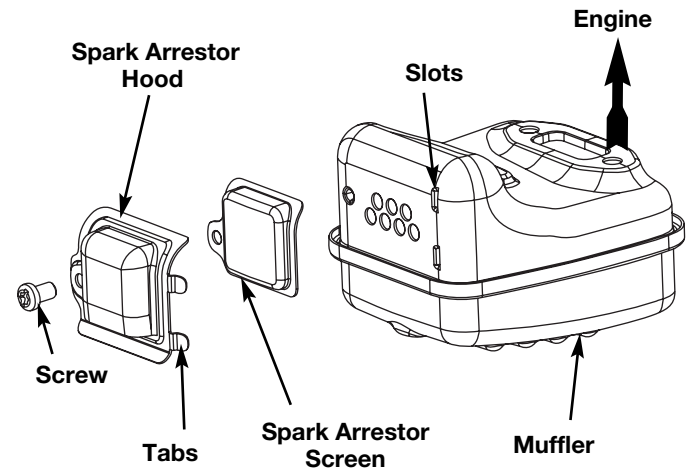

Fig. 41
2. Locate the muffler, but do not remove it. Find the screw on the bottom of the muffler (Fig. 41). Remove the screw using either a torx #20 or flat blade screwdriver.